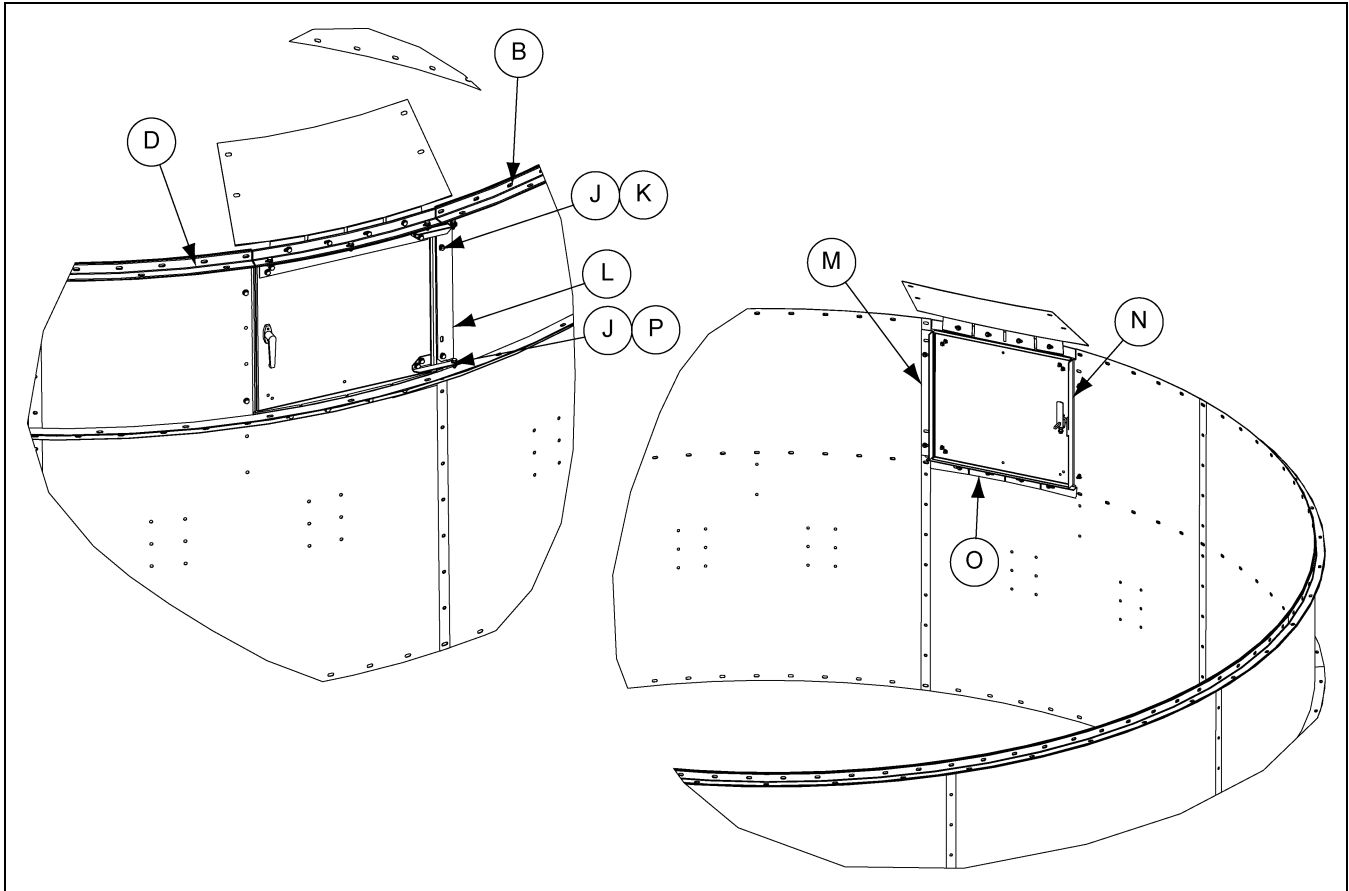

Figure 2C
4. Install the hinge bracket (L) to the outside of the burner can and the door bracket (M) to the inside of the burner can at the door opening at the same time using bolt (J) and nut (K).
5. Install the side bracket (N) and the bottom flashing (O) to the door opening using bolt (J) and nut (K).
6. Assemble door assembly to the door hinge (L) using bolt (J) and nut (P). (See Figure 2C.)